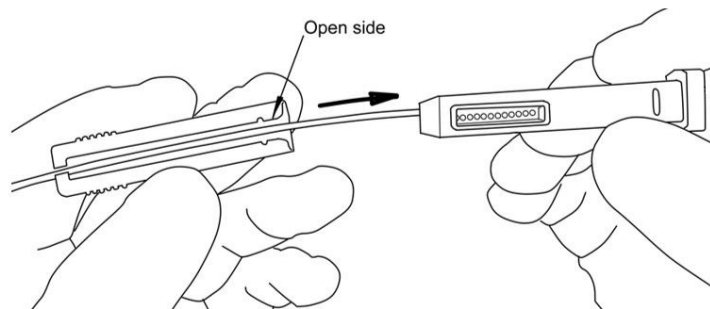

Figure 11.3: Placing the top cover over the lead and sliding onto lead adapter until it clips into place.
7. Place the top cover of the lead adapter over the lead, with the open side of the top cover aligned with the lead adapter plug. Slide the top cover all the way onto the lead adapter until the notch on the top cover clips into place (refer to Figure 11.3).